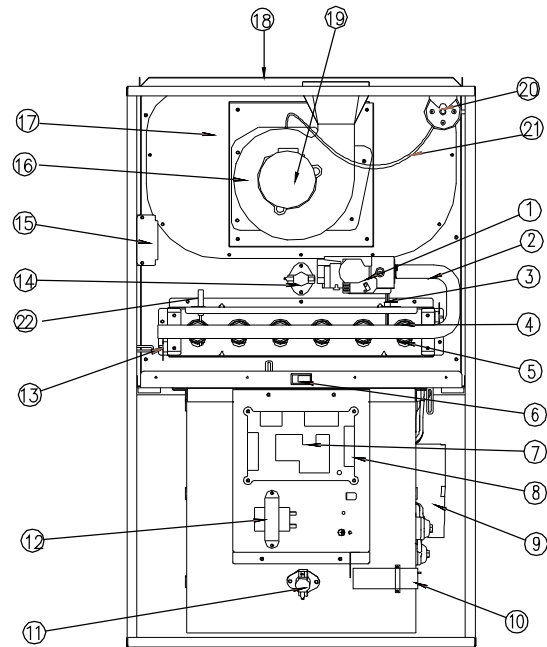

Fig . 35
- Parts are available from your distributor. (See Fig . 35)